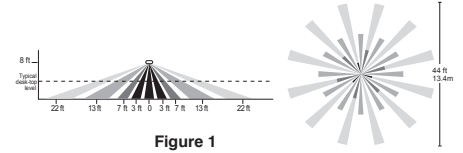

Figure 1
- The occupancy coverage area may be more or less than the sensing distances shown in Figure 1 due to potential coverage area obstacles, such as furniture or partitions.